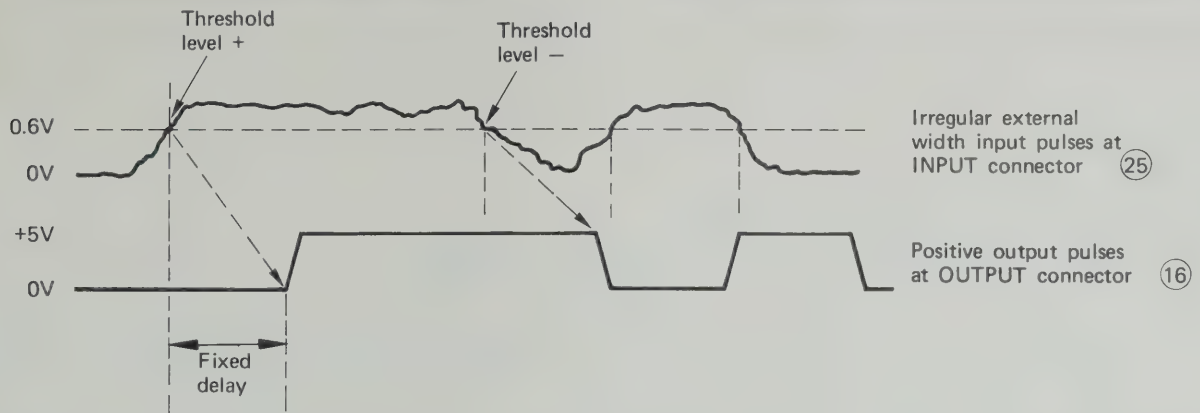

Figure 3-23. Output pulses in external width mode
OUTPUT connector (16) as shown in Figure 3-23.